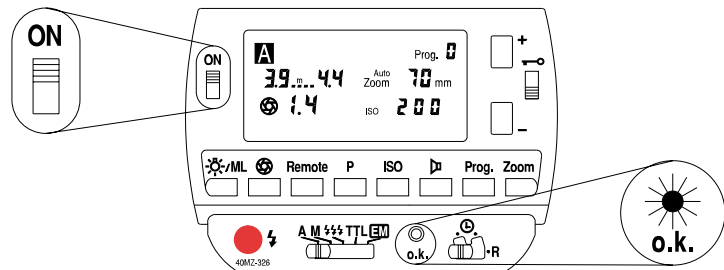

Fig. 26: Exposure o.k.
1 The test flash is triggered with the manual firing button ⑭ (fig. 26).